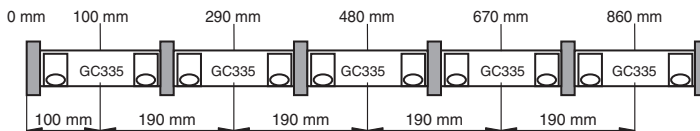

Figure 3.1 Mounting the aluminum section
2. Drill the fastening holes in the middle between the module holders (in Fig. 3.1 grayed surface). Make sure that no chips remain in the aluminum section. Seal the borehole when fastening in such a way that no dripping water can penetrate. Mechanical information which may facilitate the positioning of screws: